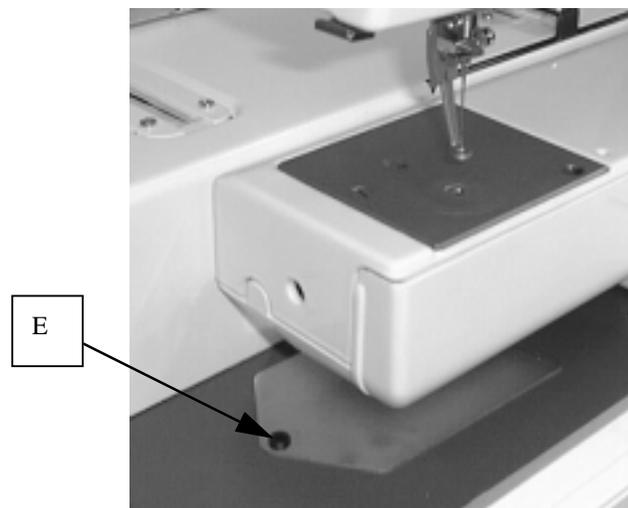

FIGURE 2-4-1
5. After removing the Hook race body cover by removing bind screws 4x6.5(E), remove the bed cover (unit) (H) by removing two bind screws 4x12(G). Fig.2-4-1,2-4-2.